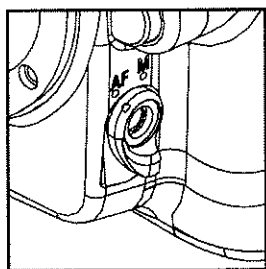
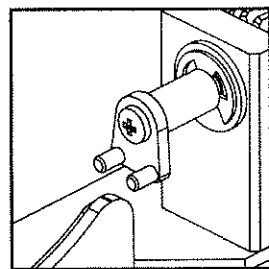
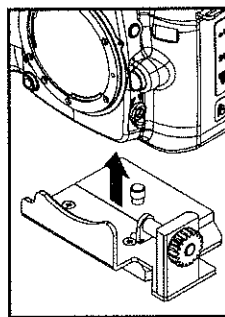

Fig.6
Fig.7
Fig.8
2. Align camera focus mode knob (Fig. 6) and quick shoe knob (Fig. 7), and then fasten the quick shoe knob to tripod socket hole (Fig. 8).